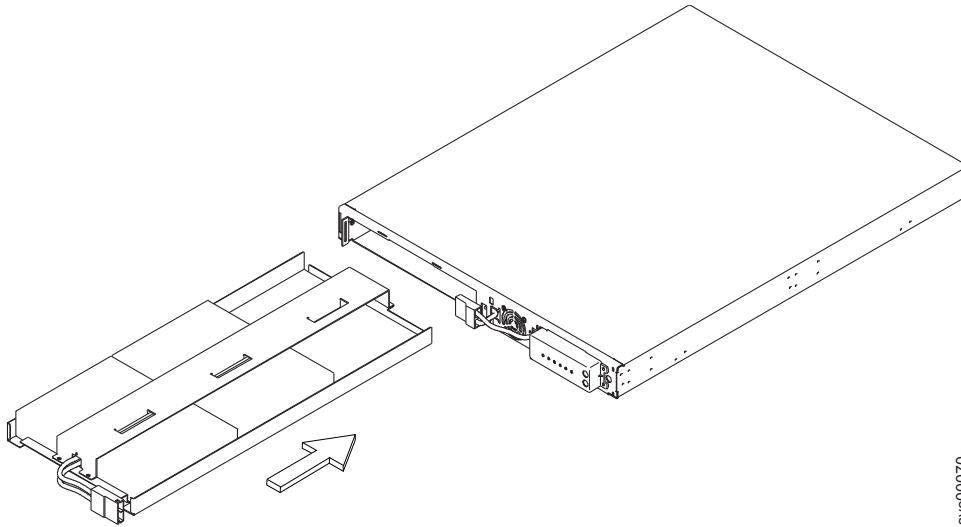

Figure 243. Replacing the 2145 UPS-1U battery
1. Slide the battery into the 2145 UPS-1U , as shown in Figure 243.